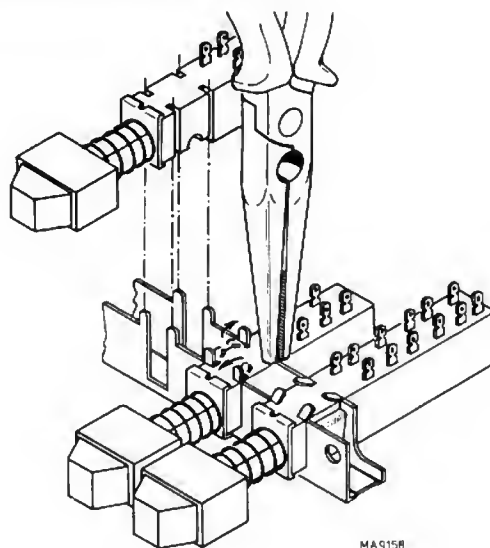

Fig. 3.20. Replacing a switch-segment of a push-button set
To remove a push-button switch, the hexagon screws that secure it to the front panel must be removed. To replace one switch-section of a push-button set, refer to Fig. 3.20.
- Straighten the 4 retaining lugs of the relevant switch as shown in Fig. 3.20.